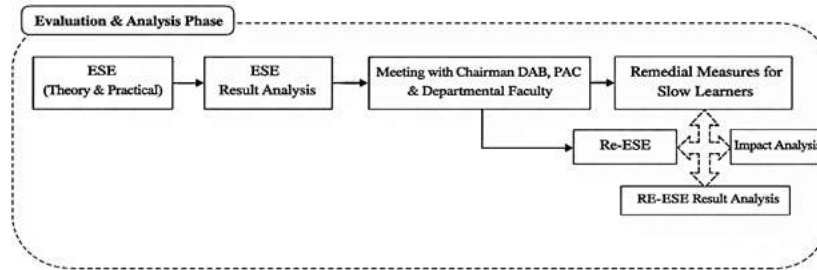

Figure 2.1.4: Evaluation and Analysis Phase in Teaching Learning Process
C.3. Evaluation and Analysis Phase: Department Evaluation and Analysis phase involved in Teaching learning Process is briefly explained in Figure 2.1.4